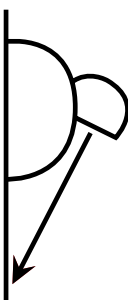
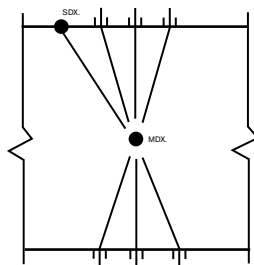

Fig. 1 - Deep-End Pattern
Fig. 3 - Deep-End Pattern with SwingJets
Paramount supplies special "down jet" eyeballs that adapt to many of the common wall return sockets. The installation of these down jets is essential for the operation of the System. Down jets are generally positioned as indicated in Fig. 1 & 2 or as indicated on the system design detail sheet. For increased cleaning of side walls SwingJets can be used instead of down jets in Fig. 3 & 4. SwingJets rotate back and forth and cover a 90° pattern.
- Push the nozzle up and look and feel for the raised area on the side of the colored nozzle that is in the center of the cream colored Cam. (Fig 1). The nozzle jet opening is 180 degrees opposite that raised area. Push the nozzle shaft up and down until the nozzle jet is either all the way right or all the way left so when you are doing the next two steps you are aware of which direction it is going to travel when rotating.
- There are three notches in the cream colored cam above the raised area (Fig 1). These cam notches are in a straight line with the cam notches on the opposite side of the raised area. The jet opening of the nozzle goes back and forth covering the 90 degree arc formed by the three ratchet positions as the nozzle extends and retracts when cycled.
- Grasp the cream colored cam and turn it either way to aim the nozzle jet to clean the desired area. Remember the nozzle is going to ratchet right or left depending on which of the two side notches you placed the pins in. (Fig 1)